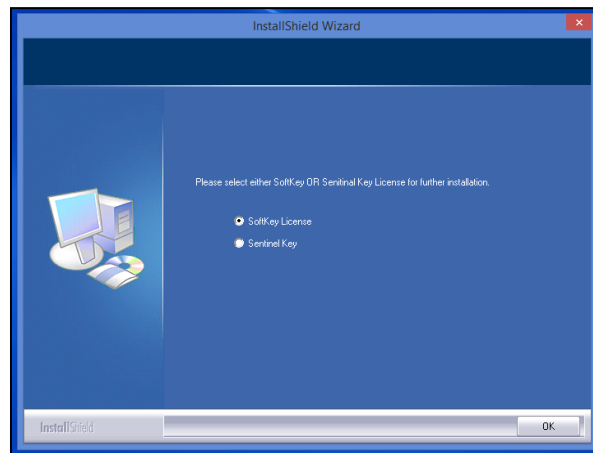

Figure 2. Software Key License
- a. If the user has a HunterLab USB hardware key, then it can be used with a new sensor on the same computer. Return to Install the Software, Step 5 (Figure 2), and select **Sentinel Key** to continue.